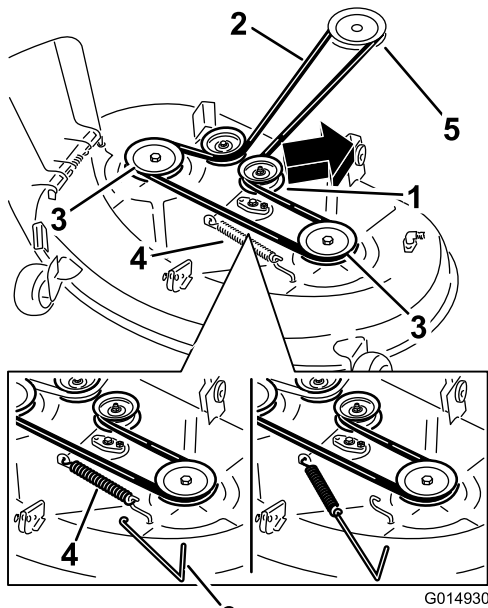
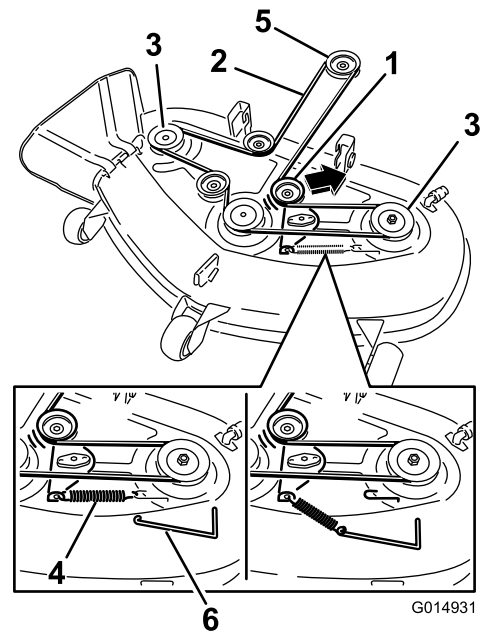

Figure 56
Figure 57
4. Using a spring removal tool, (P/N. 92-5771), remove the idler spring from the deck hook to remove tension on the idler pulley and roll the belt off of the pulleys (Figure 56 and Figure 57).
5. Route the new belt around the engine pulley and mower pulleys (Figure 57).
6. Using a spring removal tool, (P/N 92-5771), install the idler spring over the deck hook and placing tension on the idler pulley and mower belt (Figure 56 and Figure 57).